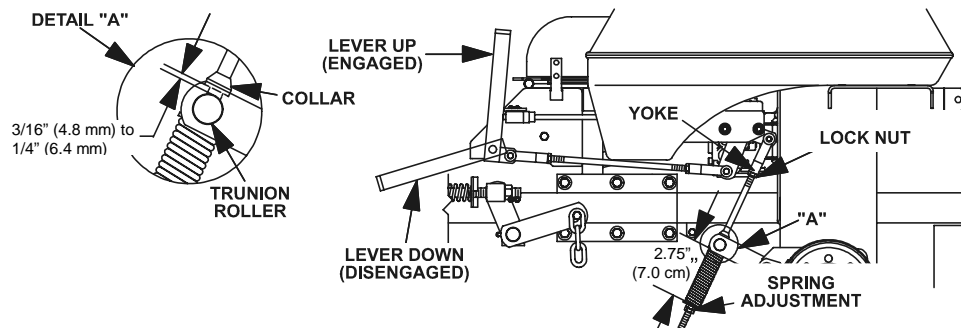

FIGURE 12
- Measure the length of the spring. Measurement should be 2.75" (7.0 cm) between washers (see Figure 12).
- Measure the distance between the trunion roller and the rod collar. Measurement should be 3/16" (4.8 mm) to 1/4" (6.4 mm). See Figure 12.
- If adjustment is necessary, loosen the nut directly below the yoke. Turn the bottom nut (below washer) until the correct measurement is obtained (See Figure 12) turn nut clockwise to lengthen the gap (screws rod into yoke) and turn counter-clockwise to shorten the gap (screws rod out of yoke). Tighten nut against yoke and check opposite side of unit, repeat if necessary.